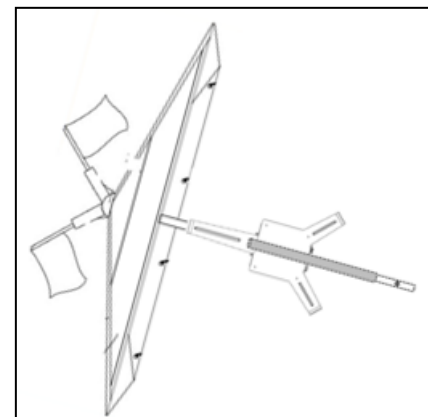

Figure 4
While the umbrella canopy (A) is on the ground – Slide the Sign Mount and pvc post (E&F) onto the umbrella pole. Make sure the entire post slides past the push button and up the pole. See Figure 4.